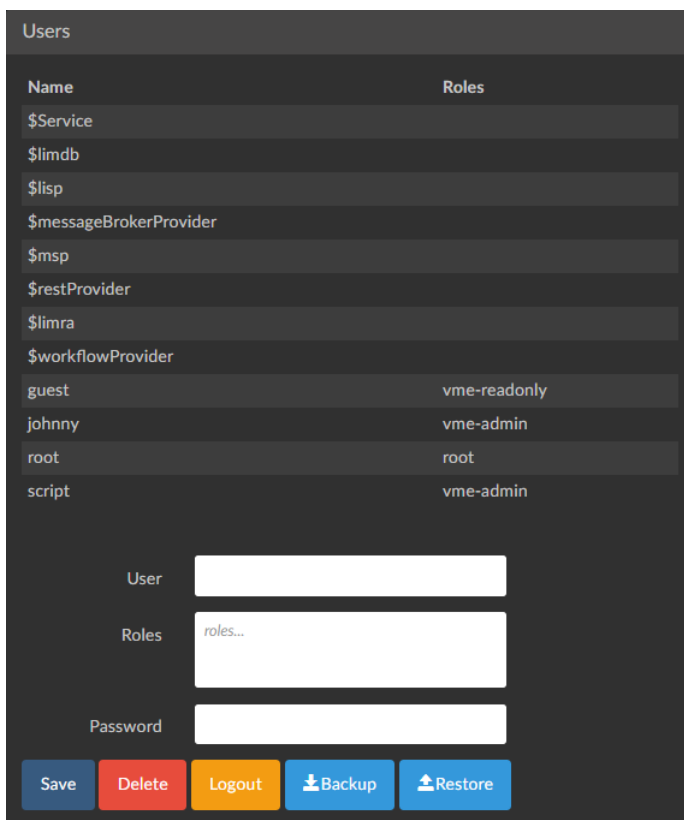

Fig. 2-3: VME Store Users Form
4. Click on **Users**. The 'Users' form is displayed (Figure 2-3).